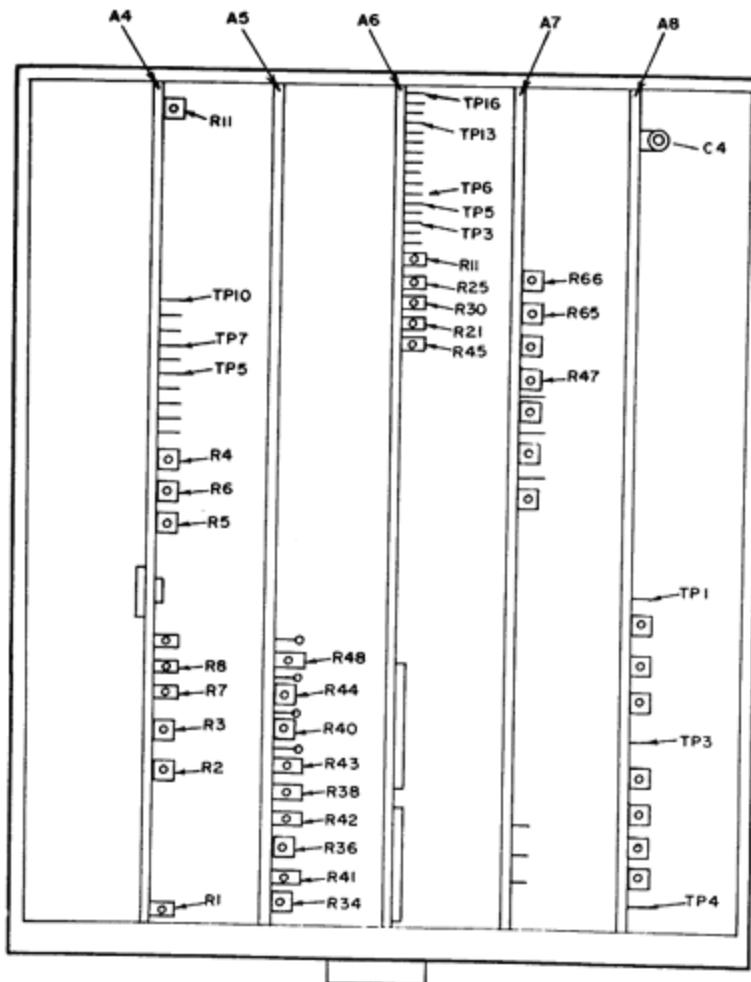

Figure 3. Model 83525A plug-in - adjustment locations.
- (1) Press **INSTR PRESET** and **STOP** keys. Enter data **2 GHz** on keyboard.
- (2) Press TI (plug in) **AMPTD MKR** key (ON). Connect microwave frequency counter to A8TP1 (fig. 3).
- (3) Adjust A8C4 (fig. 3) for microwave frequency counter indication of 50,000,000 ±250 Hz (R).
(1) Connect multimeter to A6TP3 (+) and A6TP5 (-) (fig. 3). Adjust A6R21 (fig. 3) for multimeter indication of -10.000 ± 0.001 V dc (R).
(2) Connect multimeter to A6TP13 (+) and A6TP16 (-) (fig. 3).
(3) Press function keys and enter corresponding data on keyboard as listed in (a) through (g) below:
(4) Adjust A6R11 (fig. 3) for multimeter indication of -6.250 V dc. Record multimeter indication.
(5) Press function keys and enter corresponding data on keyboard as listed in (a) through (c) below:
(6) Adjust A6R30 (fig. 3) for a difference of 12.9968 V dc between the value recorded in (4) above and multimeter indication (R).
(7) Press **M2** key and enter data **0 BKSP** on keyboard. Adjust A6R25 (fig. 3) for multimeter indication of -12.6218 V dc (R).
(8) Press function keys and enter corresponding data on keyboard as listed in (a) through (c) below:
(9) Adjust A6R11 (fig. 3) for multimeter indication of -19.5000 V dc.
(10) Press **INSTR PRESET** key and repeat (3) through (9) above until no adjustment is necessary.
(11) Ensure **TI SWEEP OUTPUT** is connected to oscilloscope **CH2** input.
(12) Connect oscilloscope **CH1** input to A6TP6 (fig. 3). Set oscilloscope for an X verses Y function operation.
(13) Press function keys and enter corresponding data on keyboard as listed in (a) through (d) below:
(14) Adjust oscilloscope controls as necessary to view TI M1 marker and band switch point (break in trace).
(15) Adjust A6R45 (fig. 3) to align the band switch point with M1 marker as indicated on oscilloscope display (R).
(16) Connect multimeter to A6TP6 (fig. 3) and chassis ground.
(17) Press **INSTR PRESET** and **CW** keys. Record multimeter indication.
(18) Press **CF** and **ΔF** keys. Enter data **0 MHz** on keyboard and adjust A7R47 (fig. 3) for multimeter indication equal to value recorded in (17) above (R).
(19) Disconnect multimeter from TI.
(20) Press function keys and enter corresponding data on keyboard as listed in (a) through (o) below:
- (g) **RF BLANK (ON)**.
(21) Adjust oscilloscope controls as necessary to view TI M1 marker.
(22) Adjust synthesized signal generator frequency and level controls as necessary to align the birdie on the leading edge of M1 marker as indicated on oscilloscope display.
(23) Press **RECALL** key and enter data **2** on keyboard. Adjust A7R65 (fig. 3) to align leading edge of M1 marker with birdie on oscilloscope display (R).
(24) Press **SWEEP TIME** key and manually vary **SWEEP TIME** from 10 to 200 ms, while readjusting A7R65 for minimum shift of M1 marker (typical shift should be within ± 5 MHz).
(25) Press **RECALL** key and enter data **3** on keyboard.
(26) Repeat technique of (21) and (22) above for M2 marker.